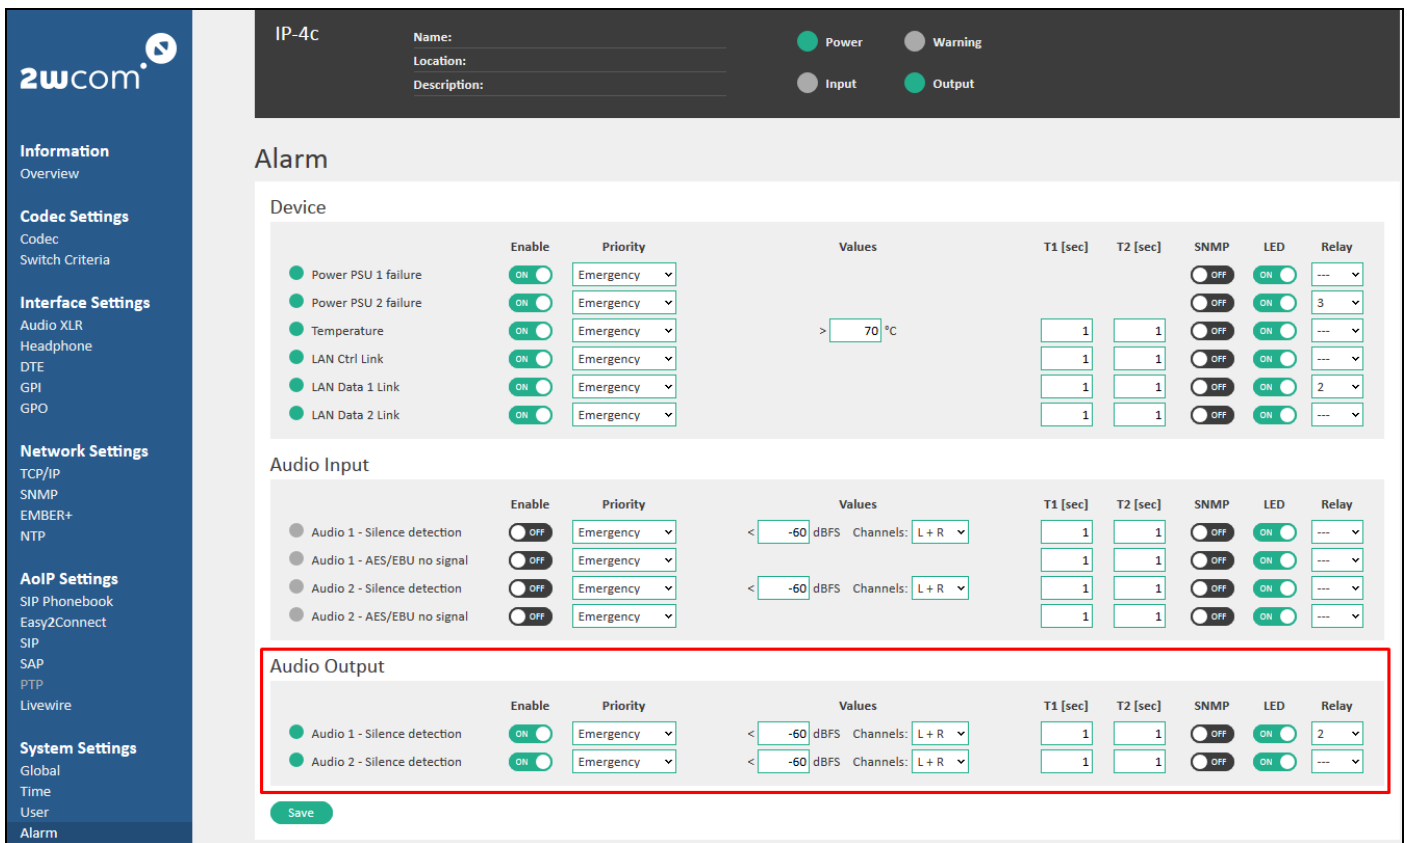

Figure 55: Alarm Settings – monitoring of audio data in the audio outputs
1. Open the configuration menu Audio Output 1-4 in the window “Alarm” under **System Settings**→**Alarm** in the web interface of the IP-4c (see Figure 55).